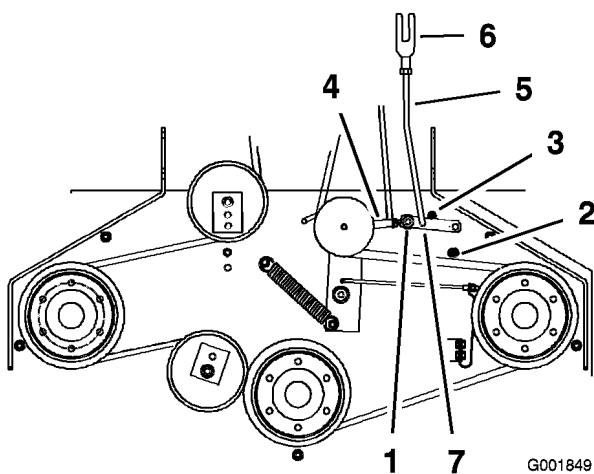

Figure 52
- Make sure the assist arm is against the rear assist arm stop on the deck (Figure 52).
- The assist arm should contact the front assist arm stop on the deck. If it does not contact, adjust the bellcrank so it is closer to the gusset (Figure 52).
- To adjust the assist arm link, remove the hairpin cotter pin from the assist arm (Figure 52).
- Install the assist arm link into the assist arm and secure it with the hairpin cotter pin (Figure 52).